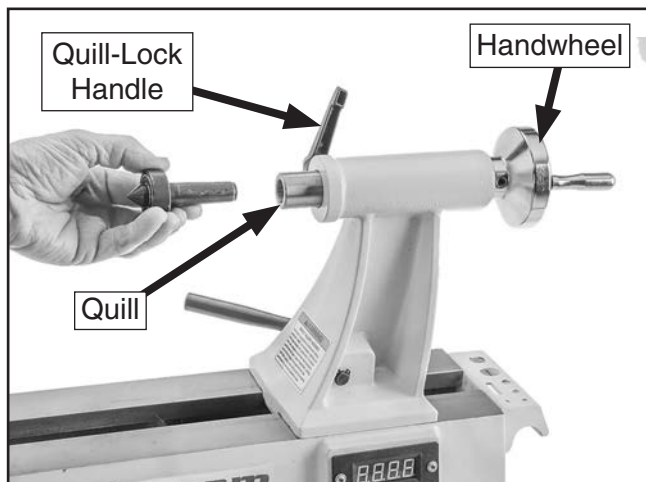

Figure 18. Installing center into tailstock quill.
1. Loosen quill-lock handle, and rotate handwheel until quill extends about 1", as shown in **Figure 18**.
3. Firmly insert tapered end of center into tailstock quill, as shown in **Figure 18**.